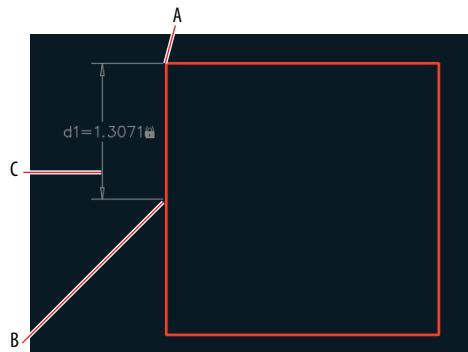

FIGURE 12.5 Creating a vertical linear dimensional constraint
2. Select the Parametric tab on the ribbon. Select the Linear constraint tool in the Dimensional panel, and click *constraint points* A and B, shown in Figure 12.5. Constraint points highlight in red on screen when you move the cursor near them. Click point C to locate the dimension line. Press Enter to accept the default dimension text. This dimensional constraint is automatically given the variable name `d1`.